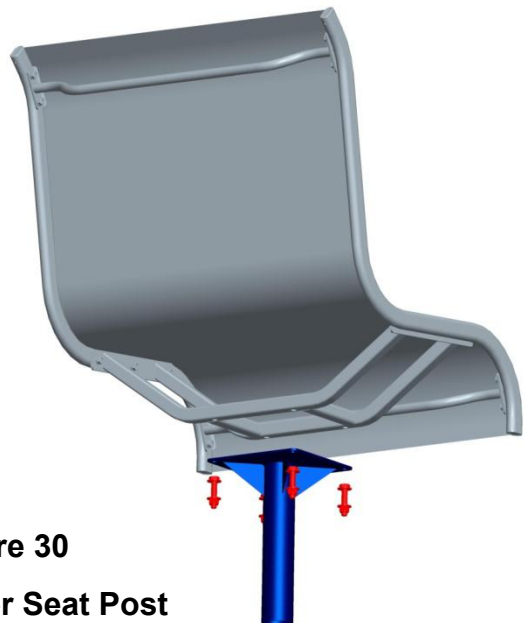

Figure 30
Locate Upper Seat Post (#19). Install the Upper Seat Post (#19) onto the Seat Base Frame (#17) using four (4) M8x40 Bolts, eight (8) Steel Washers and four (4) Locknuts as shown in Figure 30.